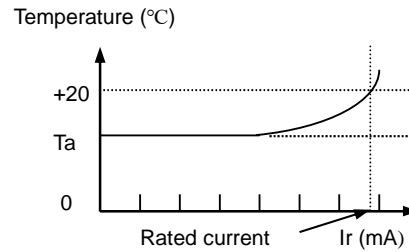

Fig. 5.3.3-2
- e. When operating temperatures exceeding +85°C, derating of current is necessary for chip ferrite beads for which rated current is 1000mA and over. Please apply the derating curve shown in chart Fig. 5.3.3-3 according to the operating temperature.